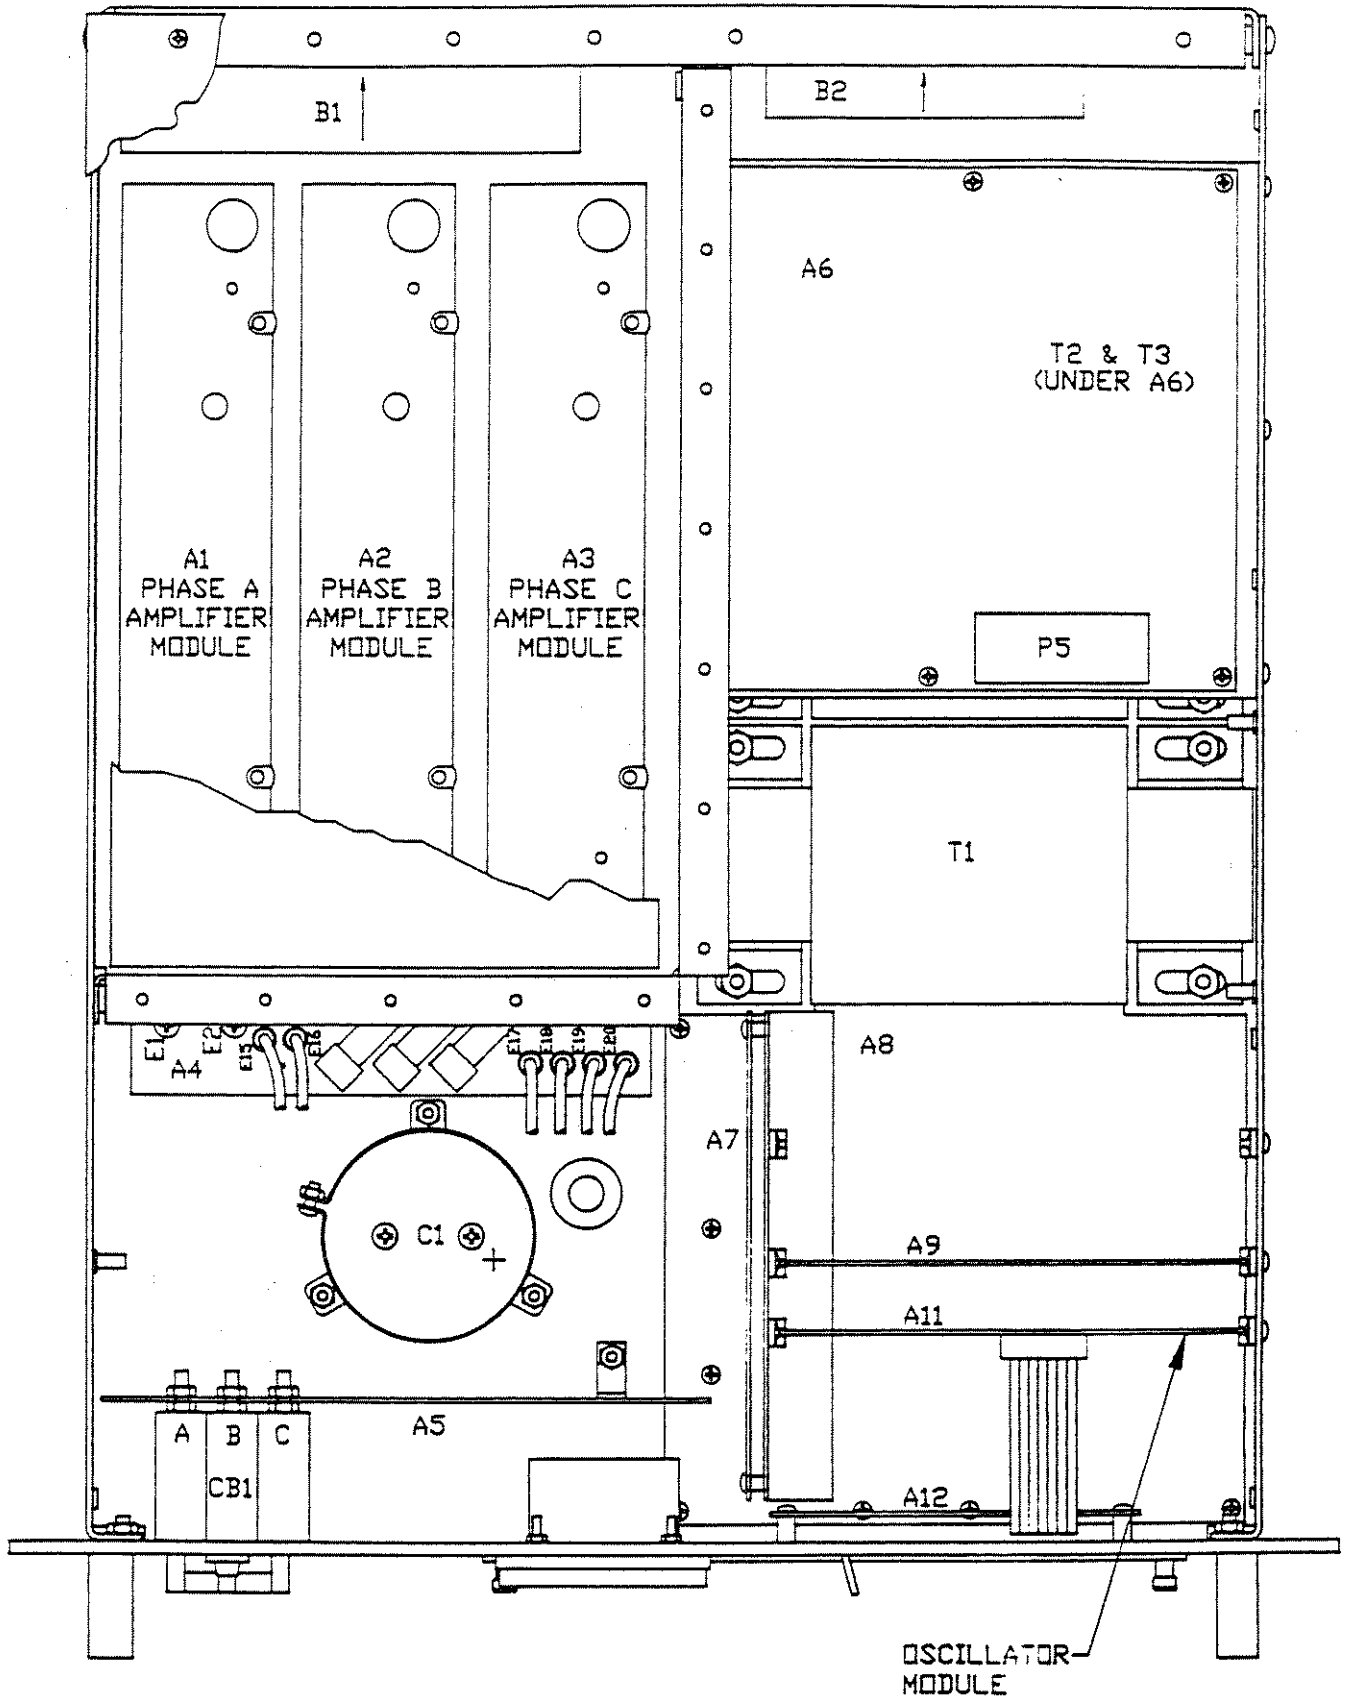

FIGURE 6-1
Figure 6-1 shows the location of the internal modules and assemblies. The figure shows the Amplifier Modules, A1, A2 and A3, with the insulator removed.
If a fault is found that requires the replacement of the oscillator Module (assembly 4007-407) follow the following steps and refer to Figure 6-1 for the module locations:
If a fault has been found that indicates the failure of an amplifier module (assembly 4009-416), check the condition of the +300 VDC fuses before replacing the amplifier. Refer to Figure 6-1 for the location of the fuses. Fuse F1 is for phase A, F2 for phase B and F3 is for phase C.
6. Check the amplifiers associated 10 amp fuse and replace it if necessary. Refer to Figure 6-1 for the location of the fuse. F1, F2 and F3 are for the phase A, B and C amplifiers respectively.